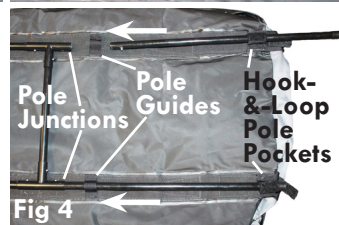

Fig 4
3-Run the remaining (2) poles through the hook-&-loop pole pockets, through the pole guides and into the pole junctions (Fig 4).